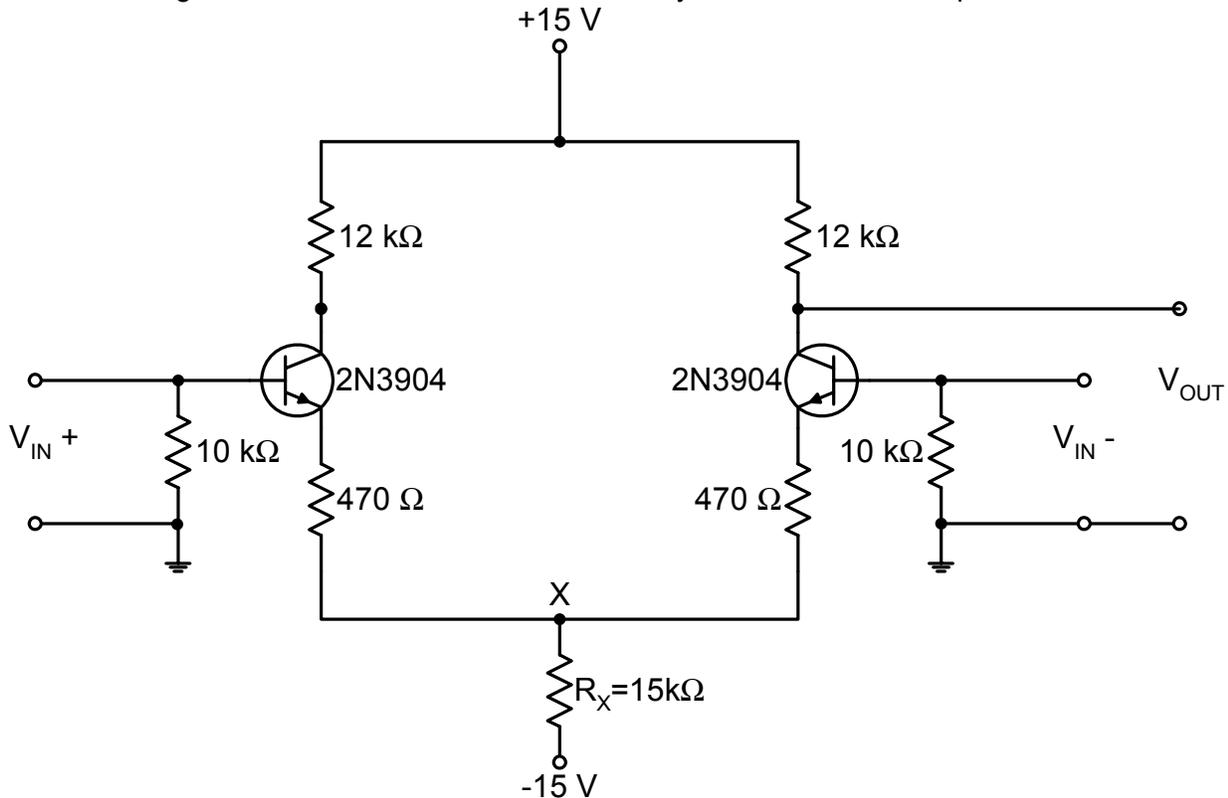

Figure 2: Differential amplifier for experiment 2.
1. Construct the differential amplifier of Figure 2. Connect a 1 kHz signal to both inputs  $v_{in}^+$  and  $v_{in}^-$ . Measure the common-mode gain: